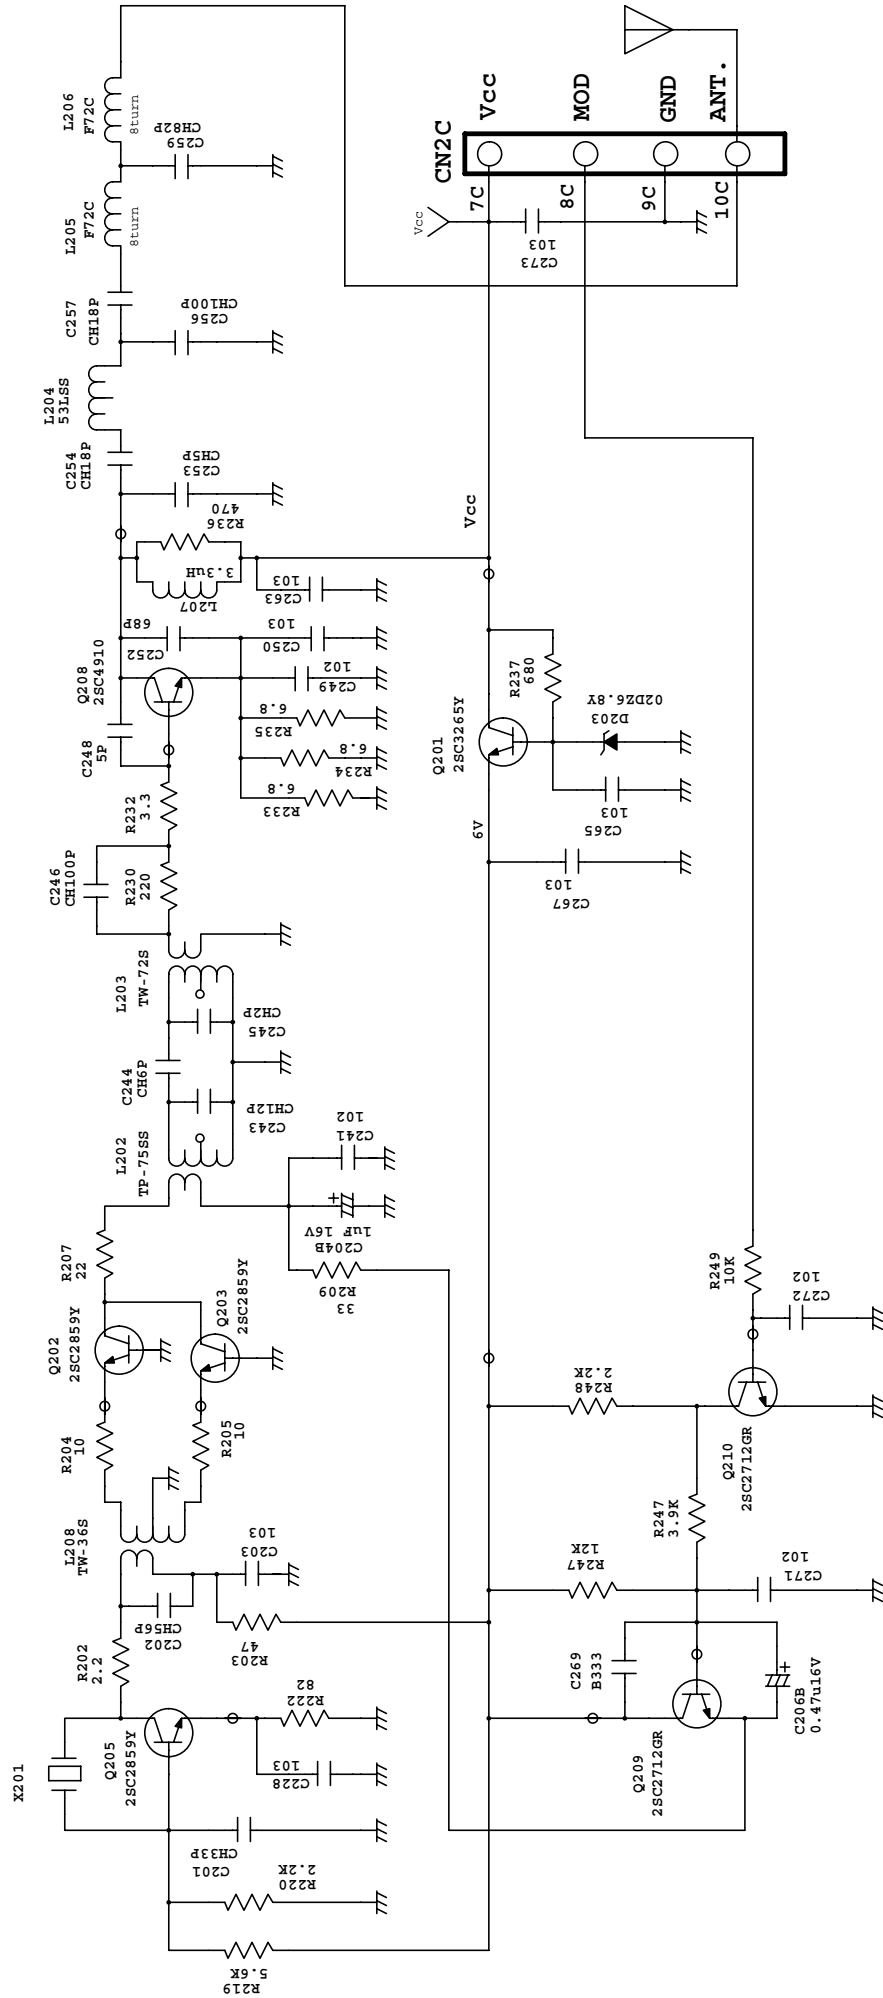

Figure 5.2.2. Transmitter Schematic Diagram
2. Refer to transmitter schematic Figure 5.2.2